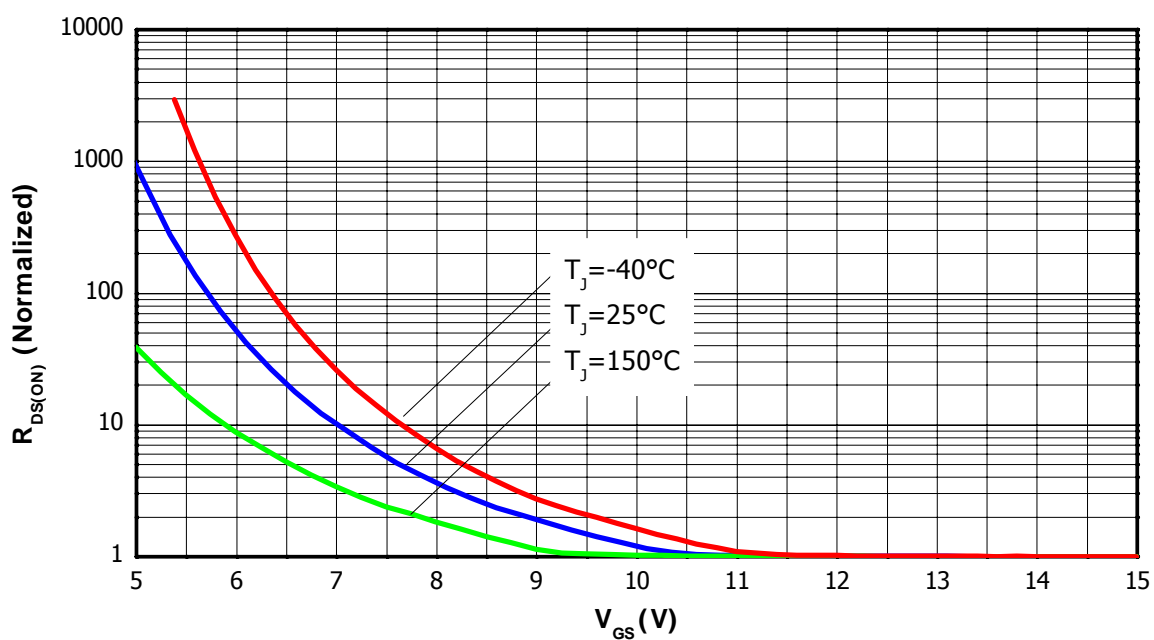

Figure 8. Normalized Drain to Source Resistance vs Gate Source Voltage
4. Value of the bootstrap capacitors depends upon the switching frequency. Their selection should be made based on IR design tip DN 98-2a or Figure 8.